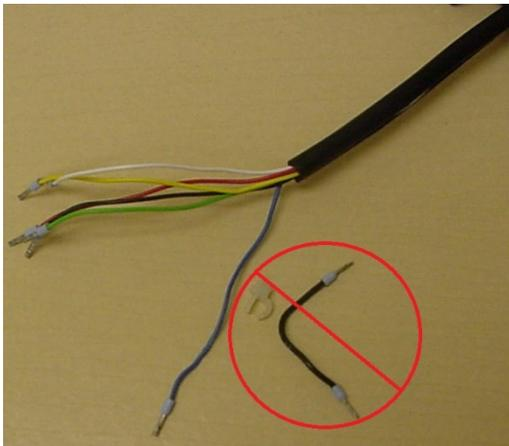

Figure 1
- a) Cut the plastic tie-wrap joining the Blue wire and the Black jumper wire. The Black jumper wire is not required for Banner Model Number EZAC-R9-QE8 installation. Refer to Figure 1